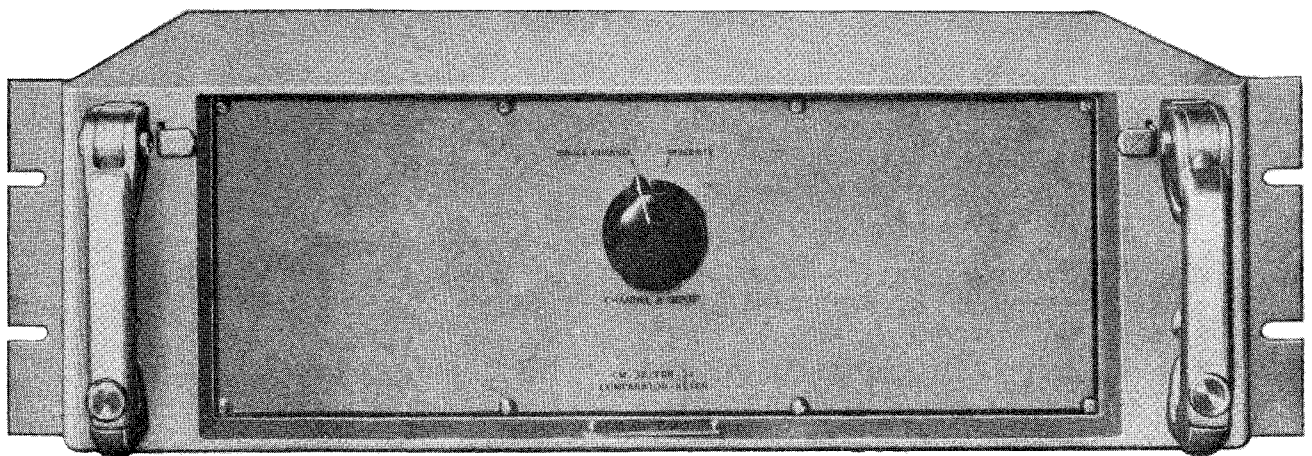

Figure 1-23. Comparator Keyer CM-32/FRR-24
(12) COMPARATOR KEYS CM-32/FRR-24. (See Figures 1-23 and 1-24).—The purpose of this unit is to receive the keyed D.C. pulses from any or all of the Frequency Shift Converters CV-127/FRR-24 and to combine and amplify these pulses to a suitable level to key a teletypewriter loop. This keyer has two channels, each channel capable of receiving separate transmissions. In addition, it can actuate one Keyer KY-62/FRR-24 for each channel. The Keyer KY-62/FRR-24 is used when it is necessary to transmit the F1 message over a telephone line from